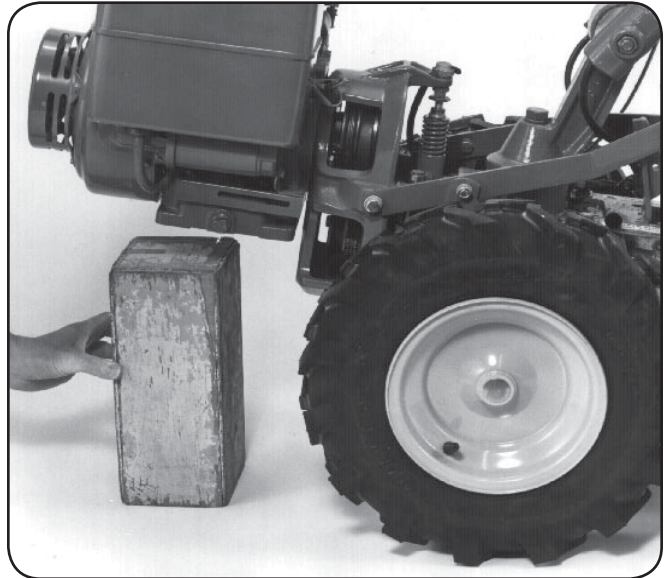

Figure 4-19
3. Place a sturdy support under the engine to prevent the engine from tipping forward when the tine attachment is removed. See Fig. 4-19.